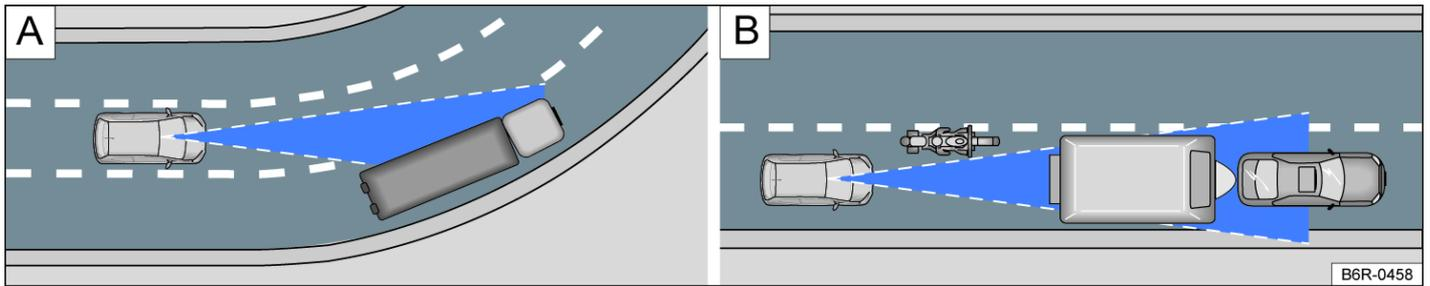

Fig. 1 **A** Driving through bends. **B** Vehicles outside the range of the laser sensor.
The laser sensor always measures straight ahead. For this reason, vehicles may be incorrectly detected or vehicles driving ahead not detected in tight bends → Fig. 1 **A**.
- Vehicles that are driving outside the sensor range in close proximity to your vehicle, e.g. vehicles that are driving offset to your vehicle or motorbike → Fig. 1 **B**.